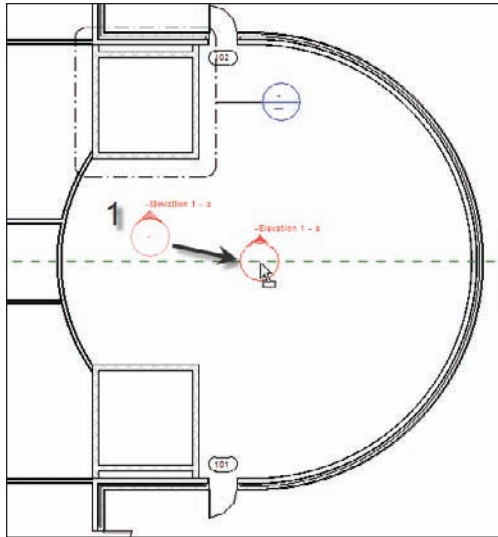

FIGURE 3.79 Add the elevation marker as shown here, and then move it to a new location.
1. Go to Floor Level 1. Zoom into the east wing entry area, as shown in Figure 3.79.
3. Place an elevation marker in an area similar to the one shown in Figure 3.79, and then move it to the center of the lobby.